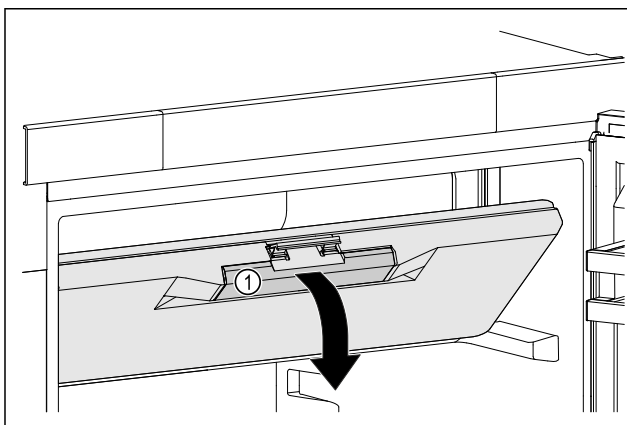

Fig. 46
► Hold the freezer compartment door by the recessed handle Fig. 46 (1).